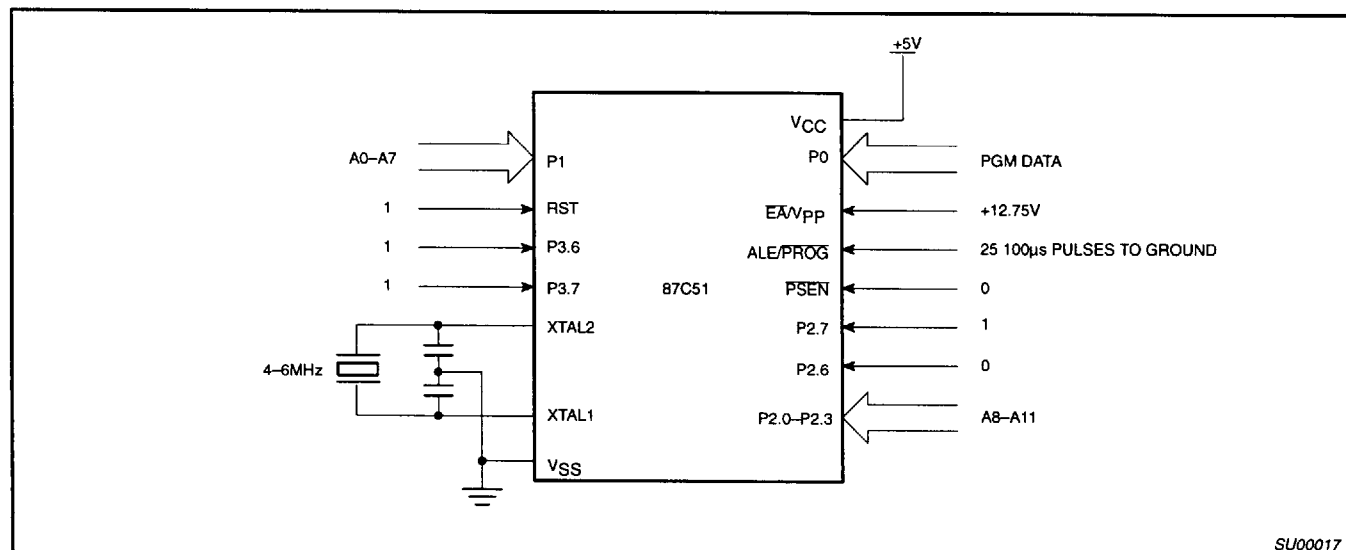
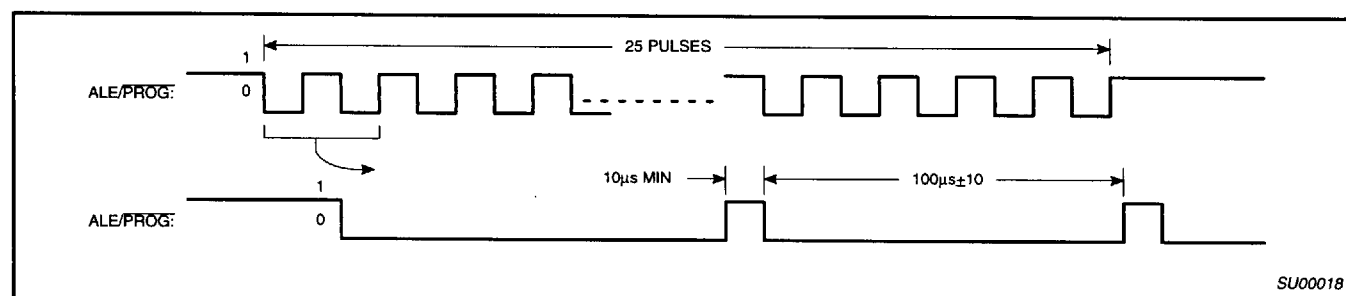
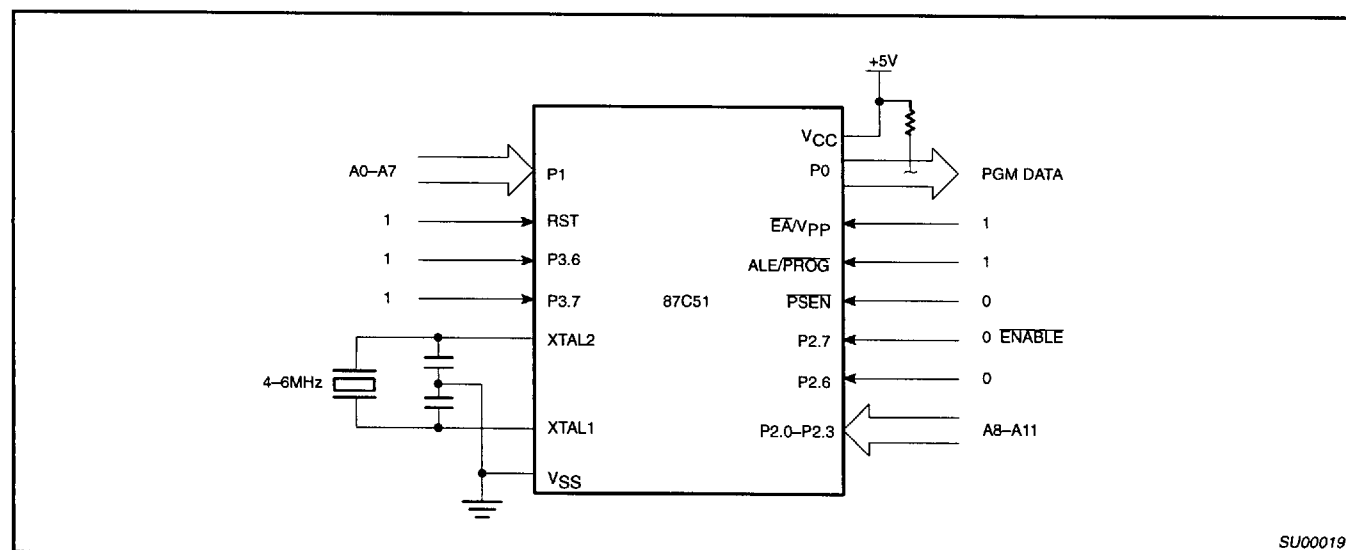

Figure 13. Programming Configuration
Figure 14. PROG Waveform
Figure 15. Program Verification
Table 3 shows the logic levels for reading the signature bytes, and for programming the program memory, the encryption table, and the security bits. The circuit configuration and waveforms for quick-pulse programming are shown in Figures 13 and 14. Figure 15 shows the circuit configuration for normal program memory verification.
The setup for microcontroller quick-pulse programming is shown in Figure 13. Note that the 87C51 is running with a 4 to 6MHz oscillator. The reason the oscillator needs to be running is that the device is executing internal address and program data transfers.
The address of the EPROM location to be programmed is applied to ports 1 and 2, as shown in Figure 13. The code byte to be programmed into that location is applied to port 0. RST, PSEN and pins of ports 2 and 3 specified in Table 3 are held at the 'Program Code Data' levels indicated in Table 3. The ALE/PROG is pulsed low 25 times as shown in Figure 14.
If security bit 2 has not been programmed, the on-chip program memory can be read out for program verification. The address of the program memory locations to be read is applied to ports 1 and 2 as shown in Figure 15. The other pins are held at the 'Verify Code Data' levels indicated in Table 3. The contents of the address location will be emitted on port 0. External pull-ups are required on port 0 for this operation.
- * FOR PROGRAMMING VERIFICATION SEE FIGURE 13.
- FOR VERIFICATION CONDITIONS SEE FIGURE 15.